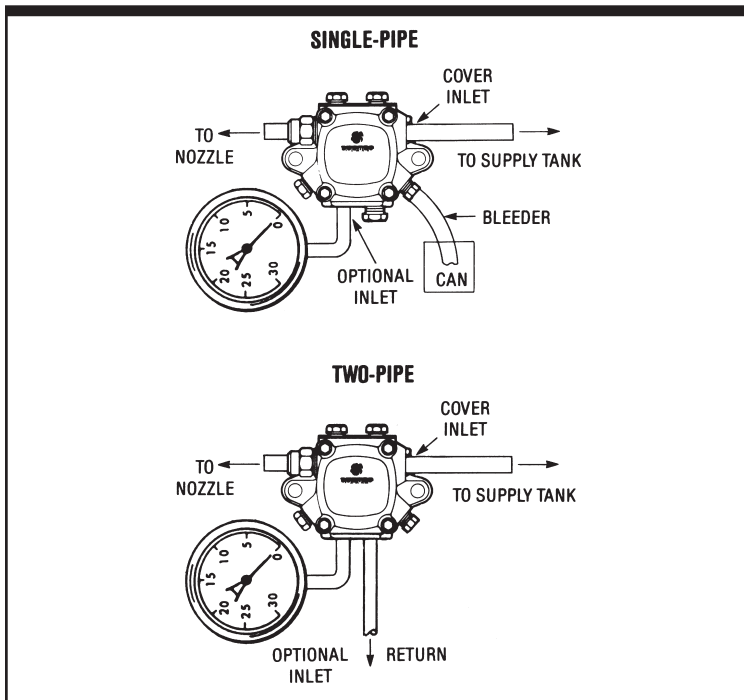

FIGURE 3 VACUUM GAGE LOCATION FOR SYSTEM TEST
- Step 1. Install vacuum gage in the optional inlet port or tee into the supply line at the fuel unit. (If the optional inlet is used for the supply line, install the gage in the cover inlet. See Figure 3.)